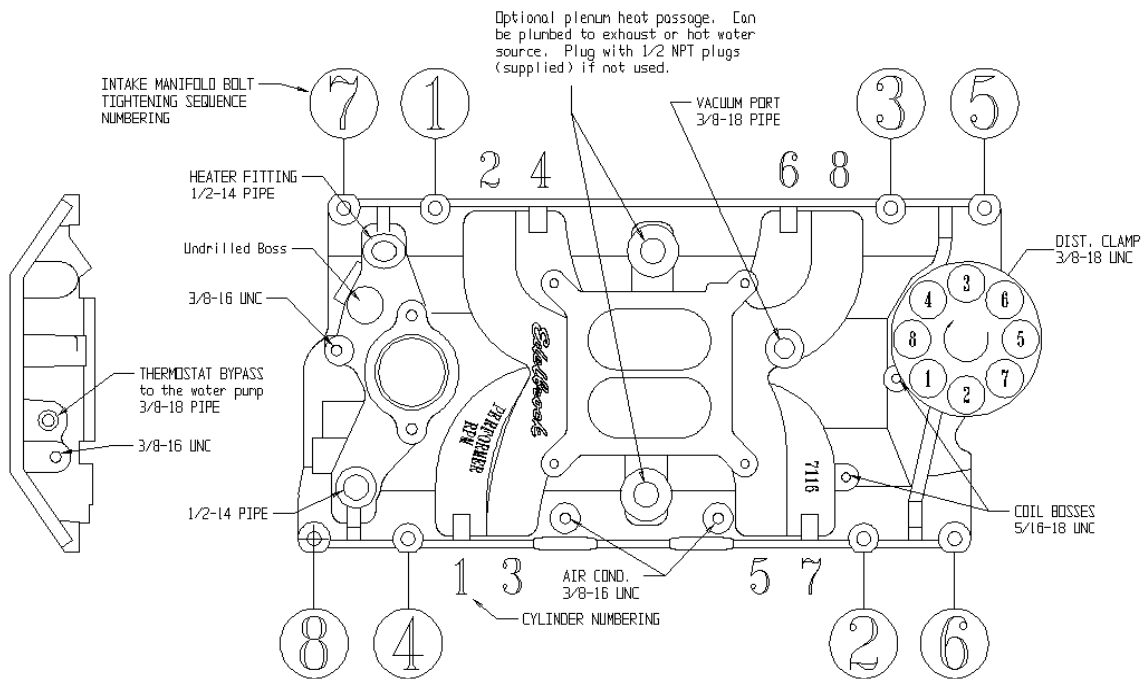

FIG 1 - Intake Manifold Bolt Tightening Sequence,
5) Install the intake manifold bolts. Apply Loctite 242 to the intake bolt threads. Carefully tighten the intake manifold bolts evenly until the intake manifold has compressed the o-ring section of the gasket. Torque all of the manifold bolts in the sequence shown in Figure 1 to 11 ft/lbs.